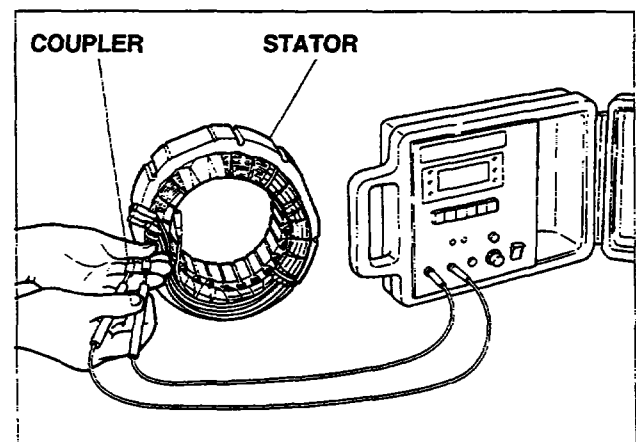

Fig. 11-2
(1) Remove control panel and disconnect stator wires at the connectors.
(2) Measure the resistance between terminals on stator leads. (See Fig.11-2) Refer to Table 9-1 for normal resistance.